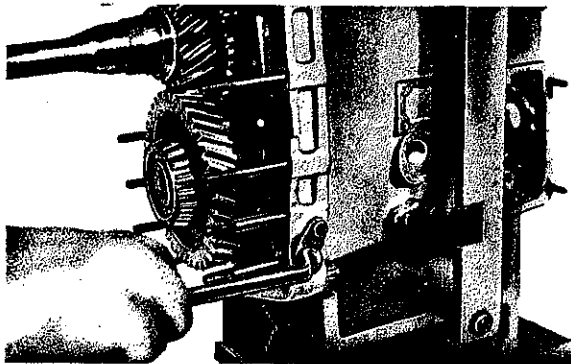

Fig. 12
8.1 Unscrew hex. screws (633) (Fig. 12) and pull joint pin (605 and 615) out of housing. It will be of advantage to tilt transmission with assembly stand .1: so that the input shaft pointing upwards and the shift forks are slightly guided to prevent canting.